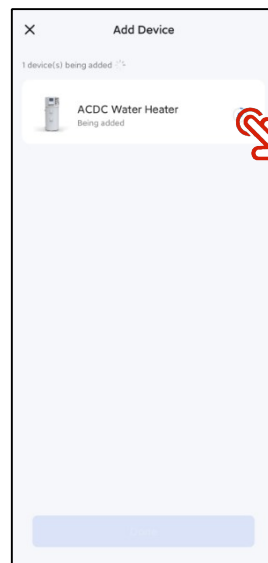

Fig.13 Select device
5. The device that will be added is displayed in the list. Click "+" next to the device you want to add (Fig.13). It will enter the Wi-Fi setting interface;